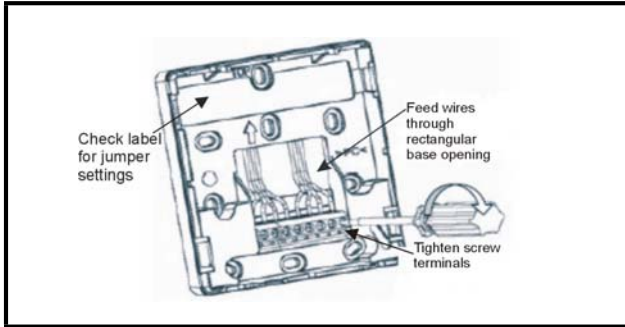

Figure 2 - Sensor Base Opening With Screw Terminals
2. Feed the power and signal wires through the rectangular opening in the base (**Figure 2**).
3. Connect the wires to the terminal connector located in the base, as indicated in **Figure 2**, and refer to the MRLDS manual for more information about wiring (P/N 026-1307).